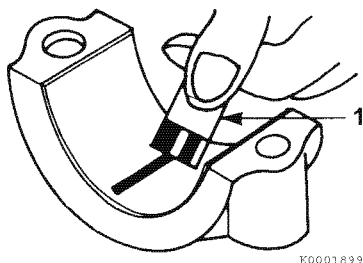

Figure 6-55
- 6- Compare the width of the flattened PLASTIGAGE to the graduation marks on the package (**Figure 6-55, (1)**). The mark that most closely matches the width of the flattened PLASTIGAGE will indicate the bearing oil clearance.